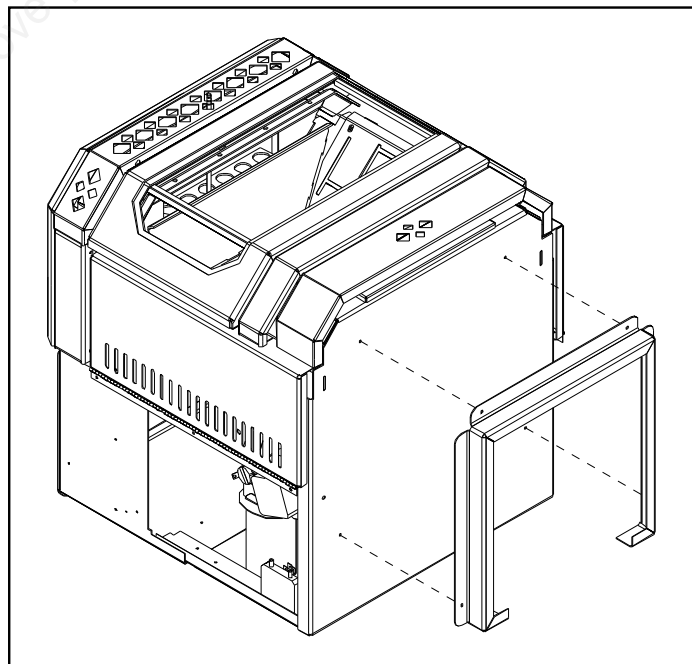

Figure 12: Installing pedestal onto unit.
4. Back the four (4) $\frac{5}{16}$ " hex head screws in the base off three (3) to four (4) full turns.
5. Secure the pedestal to the unit by tightening the four (4) $\frac{5}{16}$ " hex head screws around the outside of the pedestal (see Figure 12).